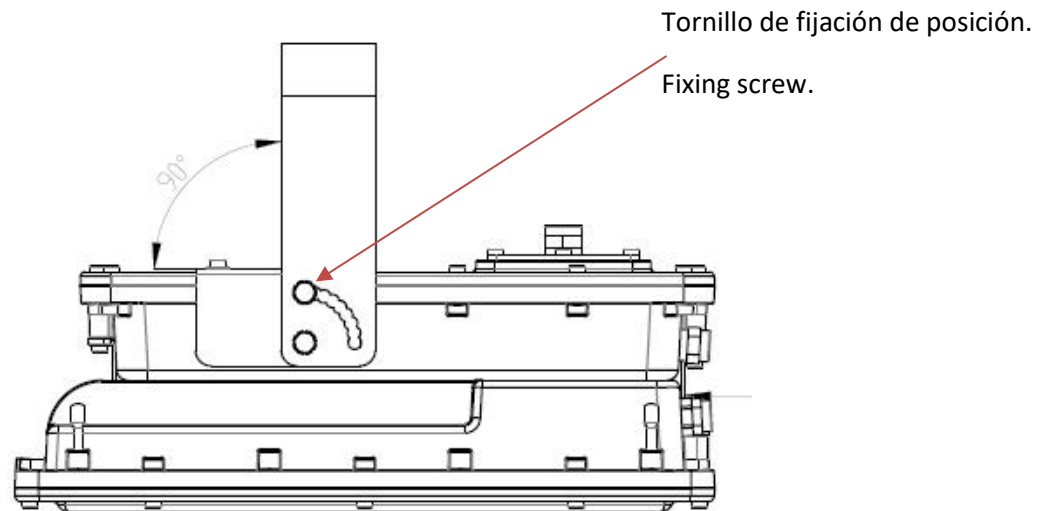

Fig. 6
- It is possible to install the projector in any position between 0 and 90°, in 5° steps as it is showed in fig. 6. Close the screws to fix the projector in the required position.